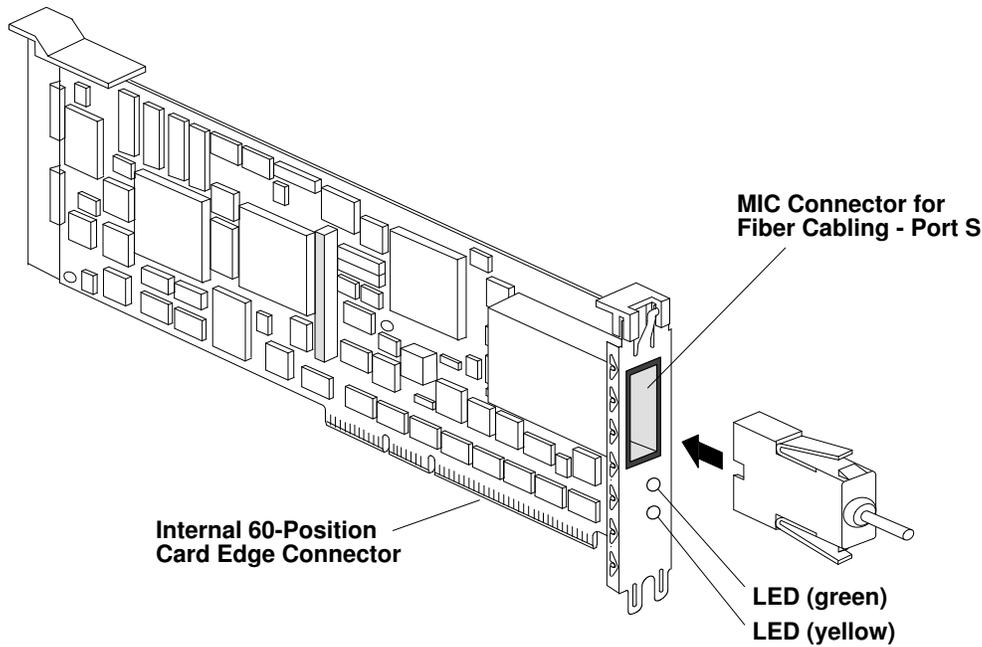
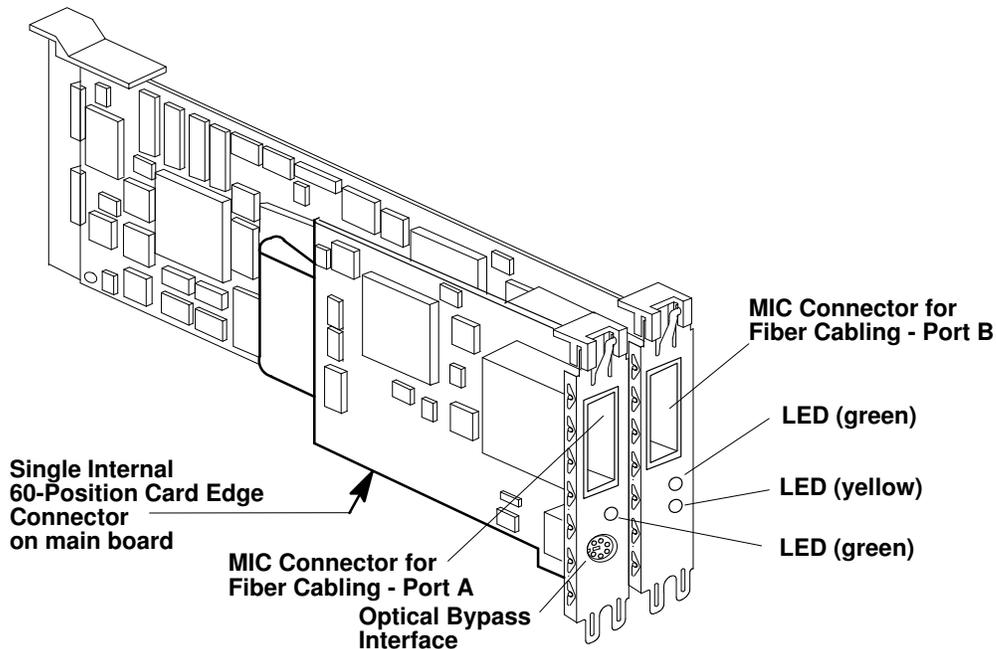

Figure 3. FDDI Fiber Single Ring (Type B2-R MCA Adapter).
Figure 4. FDDI Fiber Dual Ring (Type B2-S MCA Adapter).
- Figure 3. FDDI Fiber Single Ring (Type B2-R MCA Adapter). 1-4
- Figure 4. FDDI Fiber Dual Ring (Type B2-S MCA Adapter). 1-4
The FDDI Fiber Single Ring (Type B2-R for MCA Adapter), see Figure 3, and the FDDI Fiber Dual Ring (Type B2-S for MCA Adapter, see Figure 4, use a MIC fiber optic cabling connection to integrate fiber optic/Micro Channel systems with the 16/32-bit MicroChannel bus architecture via a FDDI concentrator into 100Mbps FDDI fiber optic network.